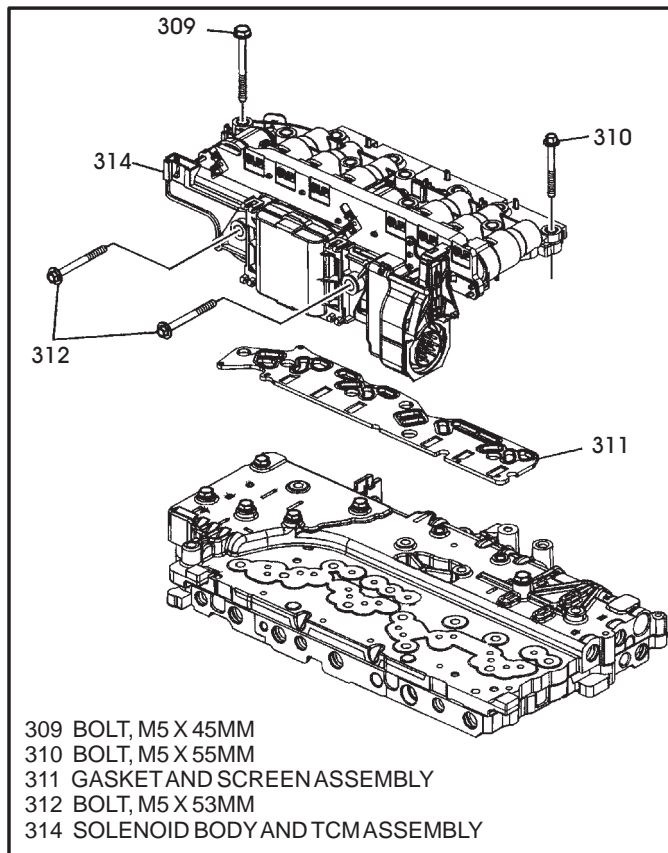

Figure 138
4. Remove the remaining bolts that retain the Solenoid Body/TCM assembly to the valve body, as shown in Figure 138, and remove the Solenoid Body/TCM assembly.
5. Remove and discard the gasket and screen assembly, as shown in Figure 138.